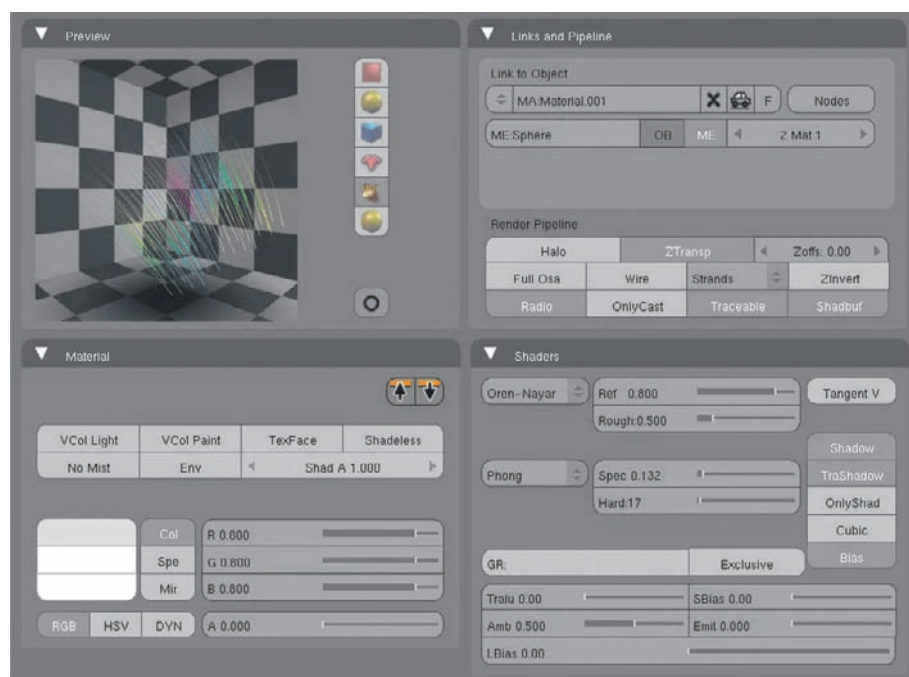
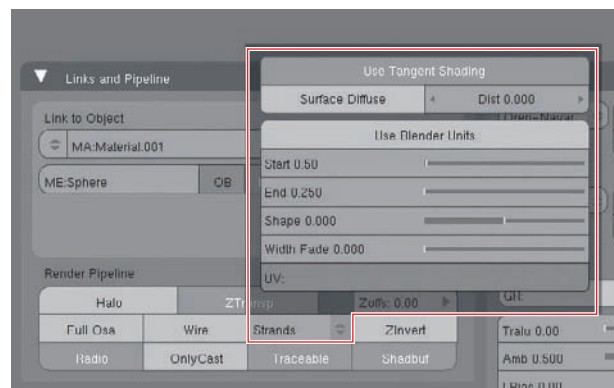
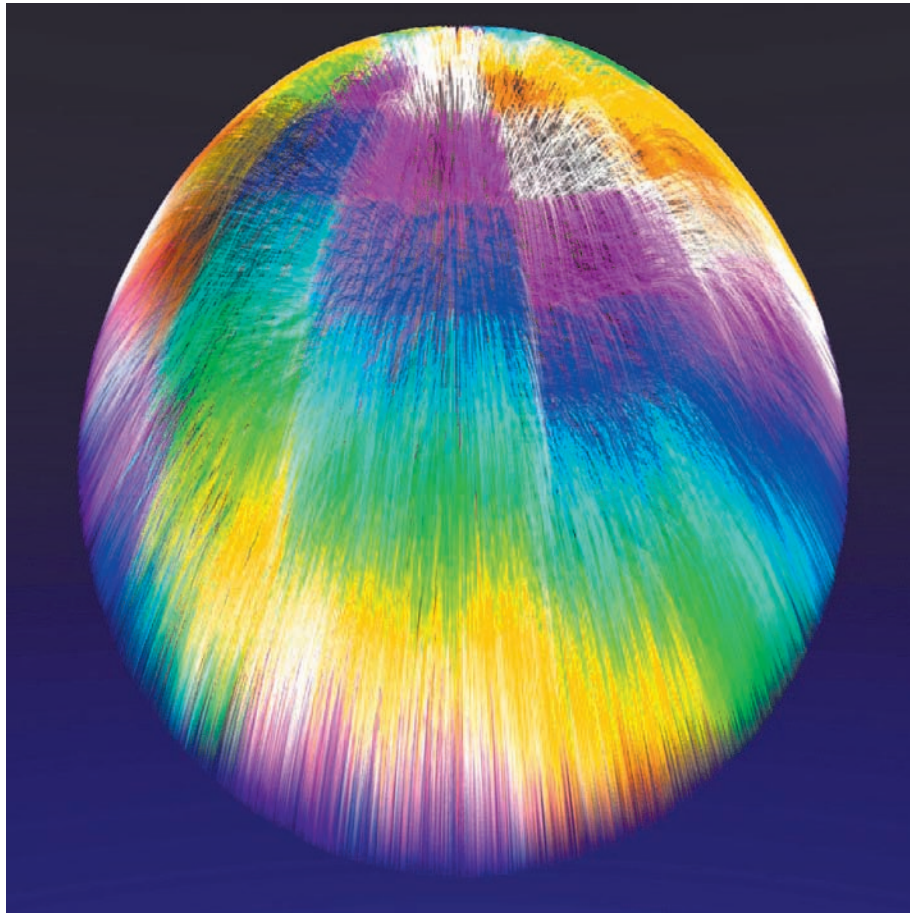

Figure 4.14 Material settings for hair
Figure 4.15 Strand values
Figure 4.16 Rendered hair
- Finally, adjust the hair materials as shown in Figure 4.14. Set the material's alpha value to 0 on the Material tab, and select Ztransp in the Links And Pipeline tab to turn on Z transparency. I used an Oren-Nayar diffuse shader and a Phong specular shader with specularity set to 0.13 and hardness set to 17. Selecting the strand preview will give you an idea of how the material will look on your hair strands. Finally, set the Strands options on the Links And Pipeline tab as shown in Figure 4.15. This enables you to determine the thickness of the hairs at both ends and also the convex or concave shape of the taper from one end to the other. Set the hairs to start at 0.5 and end at 0.25 to make the hairs sufficiently fine. Click the circle icon button in the lower-right of the Preview tab to increase the preview render quality. If you render the image now, you should see something like the image in Figure 4.16.